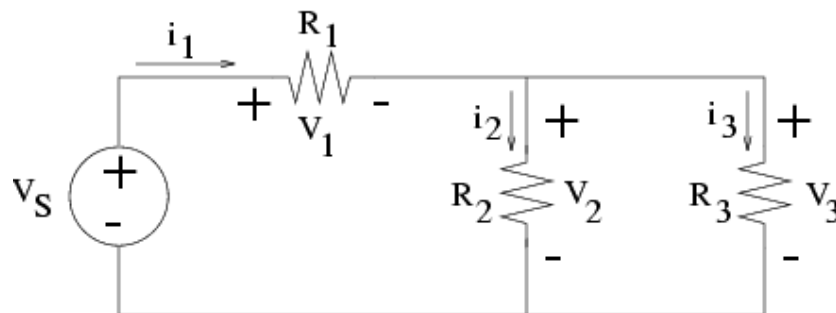

Figure 4: Resistive Network
3. Consider the circuit shown in Figure 4. Suppose you want to know the value of all voltages and currents in the circuit. Assume that you know nothing at all about the resistor values. You want the results to be as accurate as possible. You have a multimeter that you may use as either a voltmeter or an ammeter. Explain the sequence of measurements that you make. Comment on your level of confidence that your results are accurate. Don't forget that you have Ohm's Law and Kirchhoff's Laws that may be used.